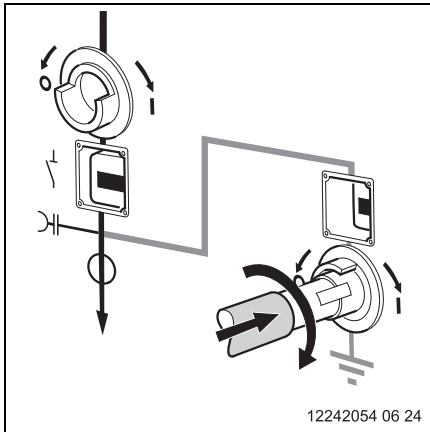

Fig. 60
**6** Switch on earthing switch. Hold the switching lever (red shaft) depressed to the end stop against spring pressure and turn it clockwise (Fig. 60).